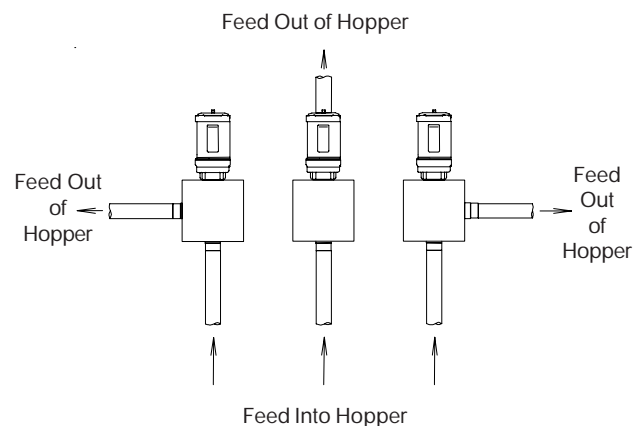

Figure 24: Extension mounting directions.
5. Remove the anchor assembly and the rear access panel from the bottom section of the extension hopper. Mount the bottom section to the top section with 1/4-20 machine screws provided with the hopper. The bottom section may be mounted in three various directions (see Figure 24).